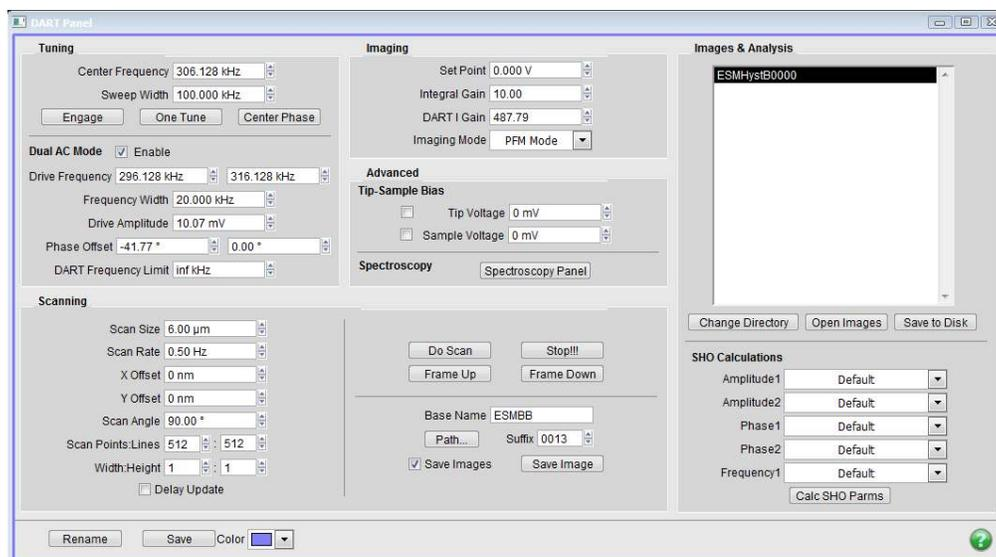

Figure 6.2.: The DART panel.
- The panel in Figure 6.2 on page 48 should appear . If it does not, in the main menu bar go to *Programming* ▷ *User Panels*. You should see a list of available panels, including DART. Select it and the panel below should appear.
- In the DART panel in Figure 6.2 on page 48 try a center frequency of 320 kHz and sweep width of 100kHz.